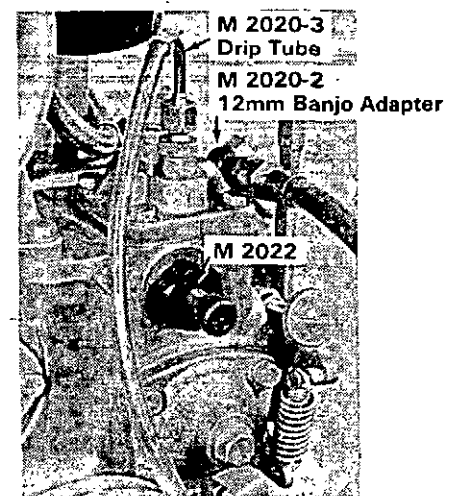

Figure 8
- b. On Version III governors, which have automatic "Start-Fuel," install M 2022 pump rack tool in the screw plug hole and turn bolt in until it bottoms against the pump. See Figure 8.